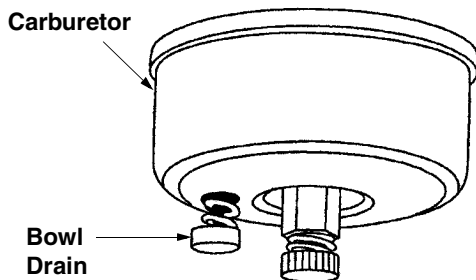

Figure 36
- Drain carburetor by pressing upward on bowl drain, located below the carburetor cover. See Figure 36.